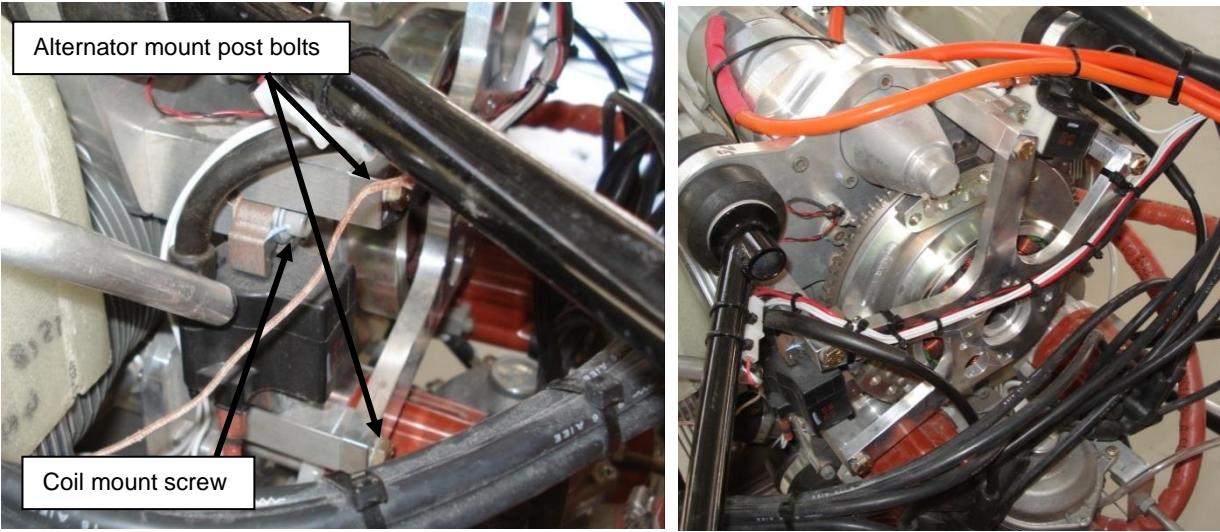

Figure 186 – Ignition Post & Alternator Stator Installation
- The alternator and ignition coil posts are held to the engine using 4 off AN4-37A bolts. Ensure that metal-lock nuts are used as shown in Figure 186. Roll pins are also used to hold these parts in position – tap them together on assembly using a soft hammer.